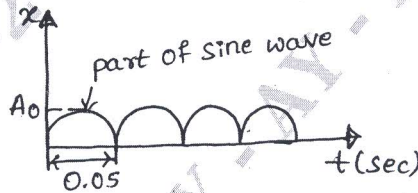

Fig Q1(b)
- b. Represent the periodic motions given in Fig Q1(b) by harmonic analysis